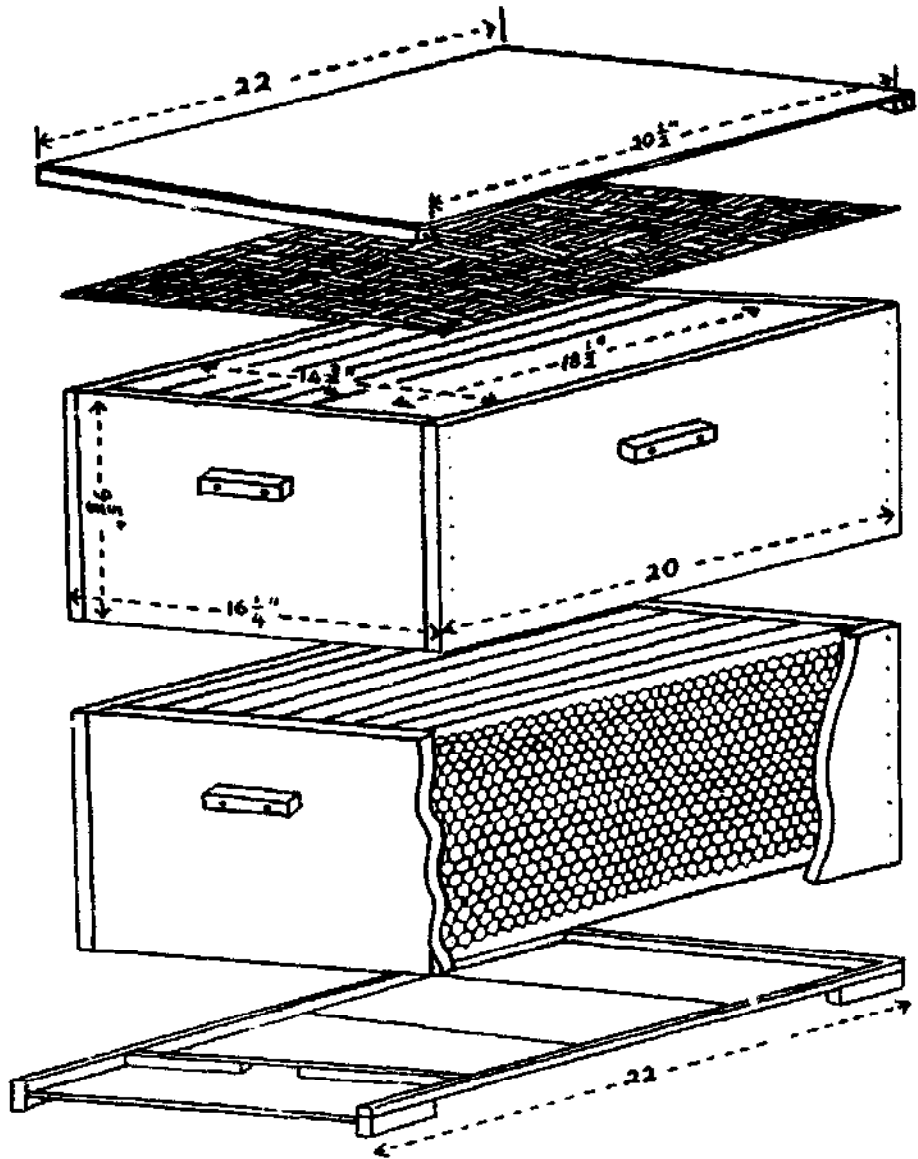

Figure 1. Langstroth beehive
Many beekeepers help their bees to start making wax by putting sheets of beeswax foundation in the wooden or bamboo frames of the hive (see Figure 1 on page 11). The foundation wax fits into hive frames and forms the base of the honeycombs. It helps speed up comb construction and gives the bees a pattern to follow for building straight and easy-to-remove honeycombs. Honeycomb foundations can be ordered from bee supply companies (see notation in back of this Bulletin).
Figure 1 shows the Langstroth hive and its parts as follows:
6. Outside cover. This protects the frames and supers underneath. A flat-top cover can be made of 0.97cm (3/8") thick boards nailed to a rectangular frame 5.08cm (2") high, all covered with galvanized sheet metal, tar paper, or other waterproof material. A simple, flat-top cover is shown in Figure 1, page 11. The boards are nailed to two strips of wood made to overlap the front and back top edge of the honey super. Any cracks are filled neatly with coal tar spread from the outside surface of the cover. Clay, putty, or other crack sealants can also be used.
In the simple, flat top cover shown in Figure 1, page 11, boards, 0.97cm (3/8") thick, are nailed to two strips of wood made to overlap the front and back top-edge of the honey super. The full outside length of the cover is 33.35cm (13-1/8") and 28.27cm (11-3/8") between the inside edges of the two wood strips. Any cracks in the cover should be filled neatly from the outside with coal tar, putty, clay, or other type of wood sealer.